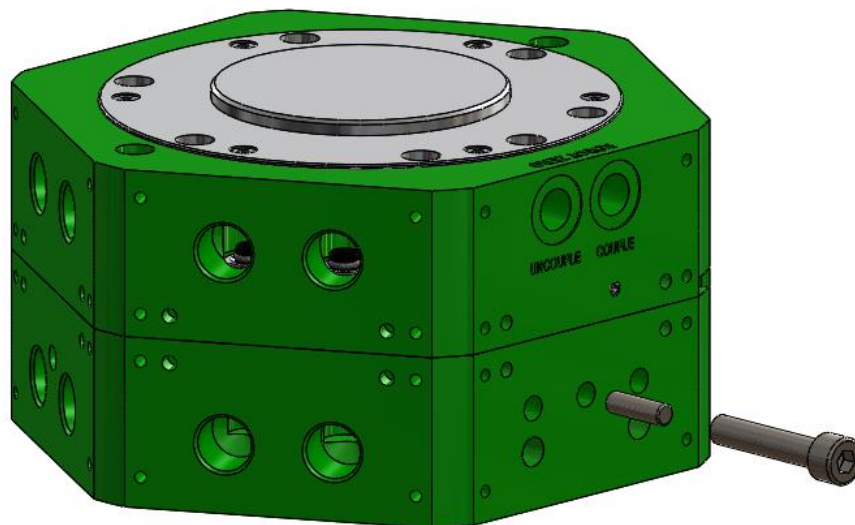

Figure 7.4-1. Manual Uncouple Feature
3. Insert a 6mm OD x 20mm long shaft followed by a M8x40mm long socket head cap screw in the hole as shown in Figure 7.4-1. This requires any tool side modules to be removed.